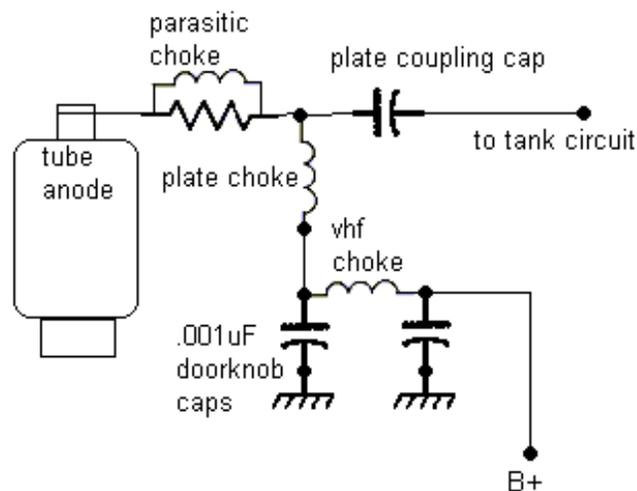

Fig. 16
Fig.16 displays the typical configuration of the plate choke and associated caps, VHF choke, & parasitic chokes.
The VHF choke seen in fig.16 should be made of 14-12ga. solid copper insulated wire. About 10 turns air-core dia. of 1/2", and should be located as close to the base of the plate choke as possible. A 5-10 ohm wire wound resistor can do the same function, rated at 25-50 watts. This resistor would serve two purposes, (1) act as a VHF choke. (2) act as a B+ "glitch" current limiter, should there be a short or HV flash-over. I have used the resistor method and it works well.
Parasitic chokes: In fig.16, you see a parasitic choke. Much has been written about these chokes, much debate, and much conjecture as to what makes an effective choke to suppress parasitic oscillations in an HF amplifier. The basic theory of choke operation is as follows; The HF fundamental energy passes freely through the choke turns, but any VHF energy "sees" a very high impedance in the coil, and must then pass through the resistor which rapidly attenuates the RF to a level that can not sustain an oscillation in the tank circuit. I have experimented in the types of coil material and found that Ni-Chrome® is a little TOO lossy when used on 10 meter band, but it does prevent parasitics. I found that Stainless Steel wire is a good less lossy material to use, and will not "rob" the amp
Plate coupling capacitors: In fig.16 you can see a "plate coupling" cap, sometimes called a DC "blocking" cap, or tank coupling cap, any of these are accurate descriptions. The purpose of the cap, is to couple the RF energy from the tube anode, into the tuned tank-circuit, while blocking the DC plate voltage from entering the tank. These caps must have an ultra-low inductance, and be capable of carrying very high RF currents over the range of operation of the amplifier. I have found that for 160-10 meter use a capacitance of anywhere from .001 μ F up to .004 μ F will work, a good amount to use is .002 μ F. The voltage rating of the cap is usually given in "DC" rating, for "RF" use de-rate the voltage by 60% of the DC rating. So, a cap rated at 30Kv DC will handle at least 18Kv RF, with a good safety margin. Another rule to keep in mind is that the RF voltage rating should be at least 4 times the DC plate supply rating. A B+ rating of 3Kv requires a plate coupling cap voltage rating of 12Kv but since the caps are de-rated for RF service the cap should be rated at least 20Kv DC. This rating will give a good safety margin. RF current is another story. Most "door-knob" type caps are rated at a few amps RF @ 1Mhz, but are rated at about 10amps RF @ 30Mhz. The use of "disk" type caps as plate couplers is not advised for a legal limit type amplifier. Disk caps will handle the RF current, but are unreliable in the presence of high DC voltage and RF current as well. I advise the use of door-knob type only for this area. My experience has been that two or more door-knob caps mounted in parallel will carry legal limit + RF levels very reliably. I would not use less than two in parallel for any legal limit amp. The mounting of the plate coupler caps is also an area of concern. A heavy copper or aluminum strap or plate is an excellent low inductance method of mounting the caps. Most door-knob caps will have screw sockets or studs for mounting, this is best for mounting directly to the strap. Do NOT use small wire to attach these caps, too inductive. Keep the distance from the plate choke to the tank circuit as close as possible, this will make a low inductance connection. The shorter the path for RF to tank, the lower the possibility that a parasitic circuit will be present. Remember, the RF current in this area will be very high, do all you can to give it a low resistance path, with low inductance.